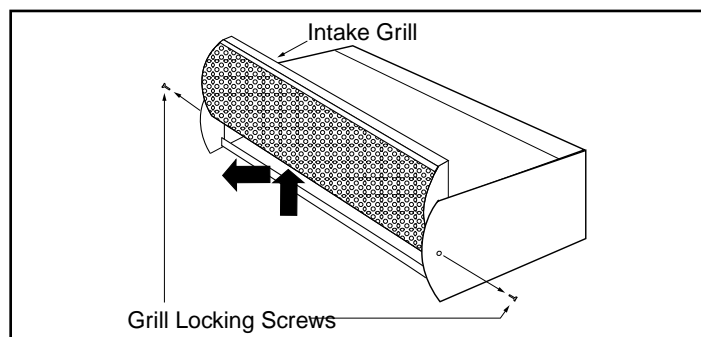

Figure 11
2. Remove the intake grille by removing the locking screw on each end of the unit. Lift the intake grille up and then towards you. **See Figure 11.**